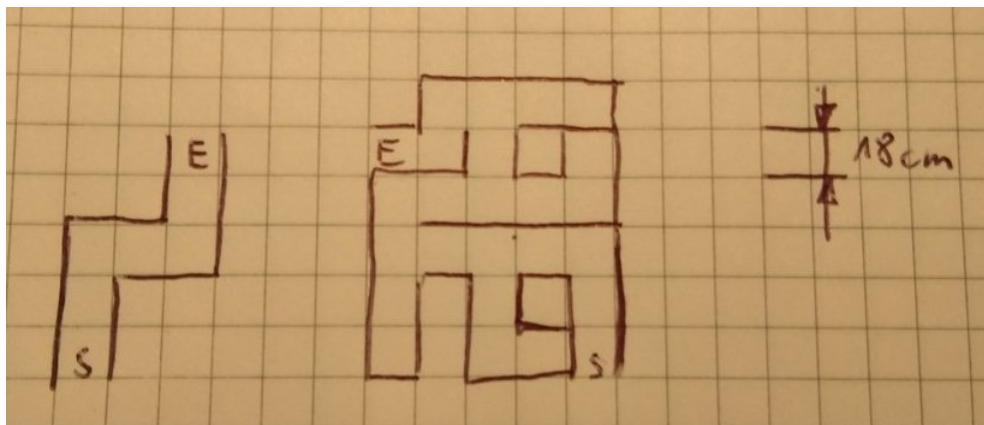

Fig. 2. Given designs for Mazes
- **Maze:** Required two mazes one is simple and one is complex. Each maze with 18[cm]×18[cm] blocks(Fig.2).